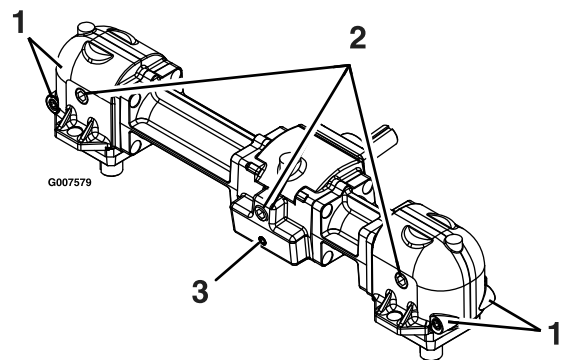

**Figure 34**
3. Remove the guard to access the gearbox (Figure 34)